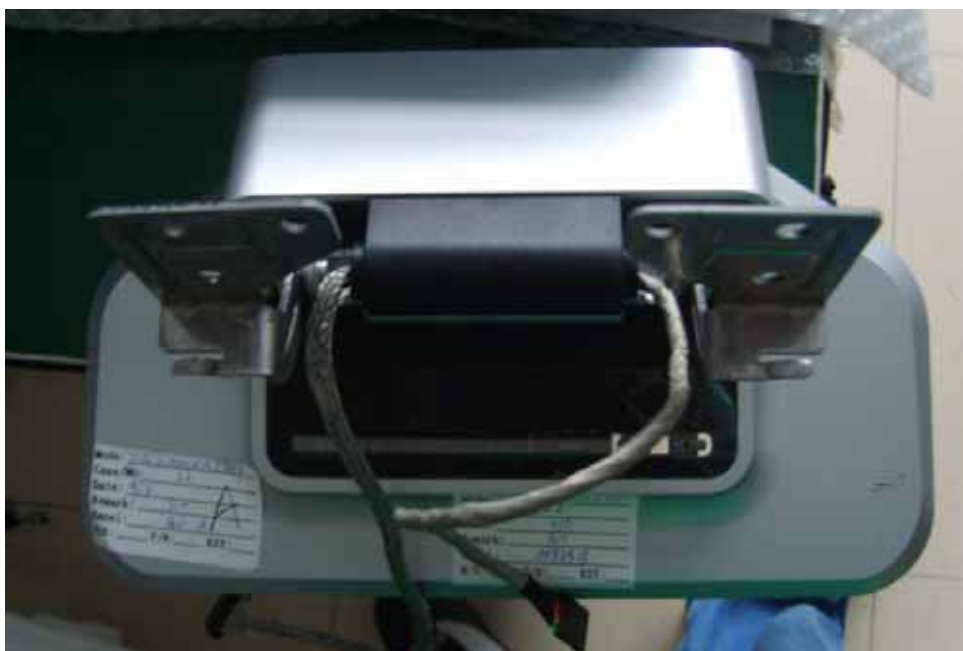

Fig 5
5. Remove the hinge cap. (Fig 5)